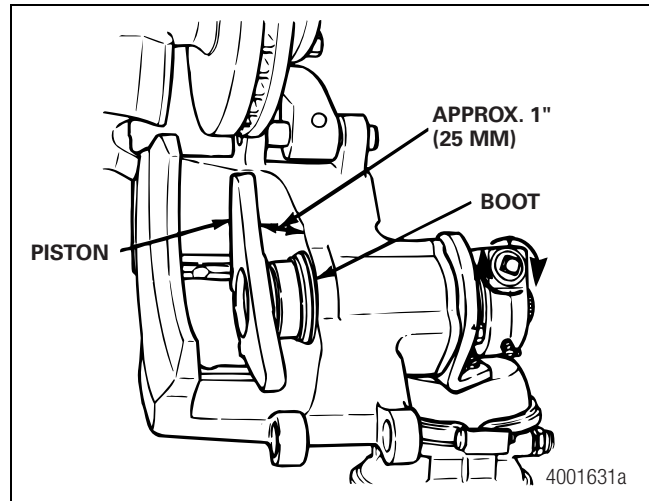

Figure 10.12
15. Turn the manual adjusting nut on the slack adjuster to extend the piston and boot approximately one-inch (25 mm). Figure 10.12.